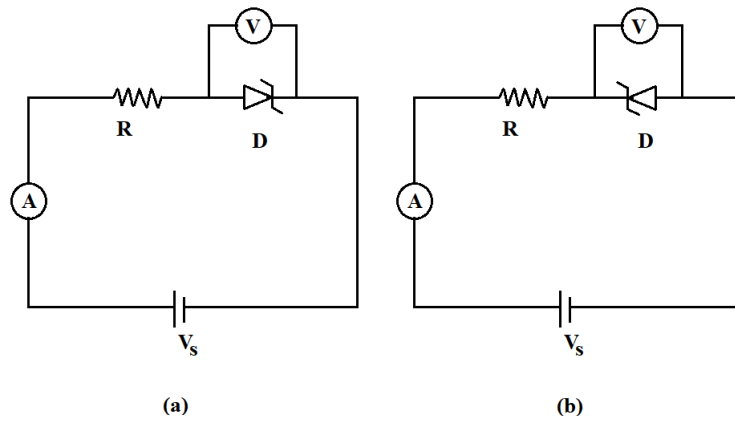

Figure 6: (a) Forward feed (b) Backward feed circuits.
1. Set the circuit given in Figure 6(a).
2. By using the power supply, adapt the source voltage to the 1st source voltage value at Table (2).
1. Set the circuit given in Figure 6(b).
2. By using the power supply, adapt the source voltage to the 1st source voltage value at Table (3).